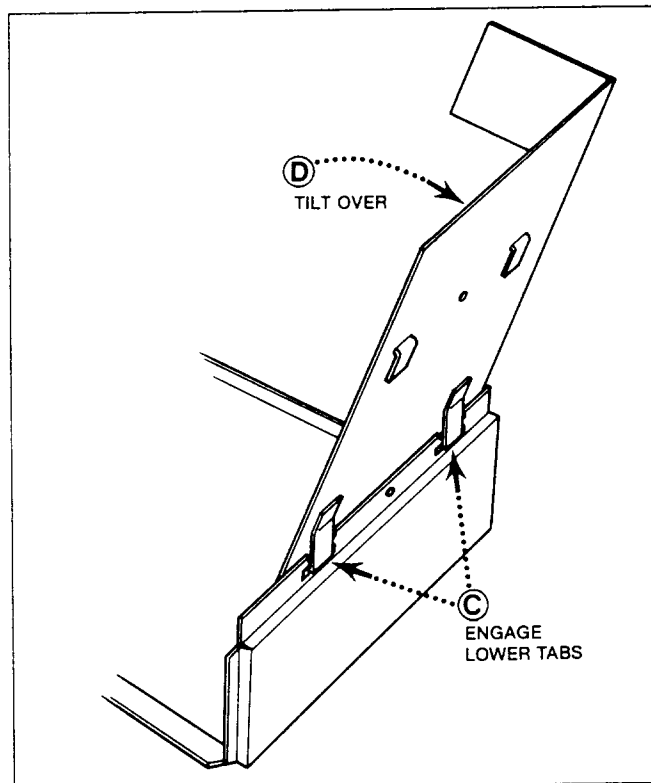

FIG R3 R SERIES SERVICE POSITION
3. Tilt the panel (D) (Fig R3) and engage the lower tabs (C) in the main chassis slots.